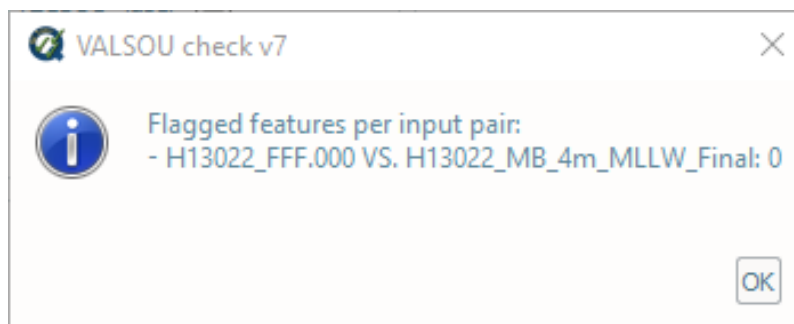

Fig. 2.28: The output message at the end of **VALSOU check v7** execution.
- After computing, the output window opens automatically, and the results are shown (Fig. 2.28). Note, the check considers all combination of grids and features files loaded. If there is no overlap found between a grid and feature file, no output is generated, and the summary will report “no overlap”.